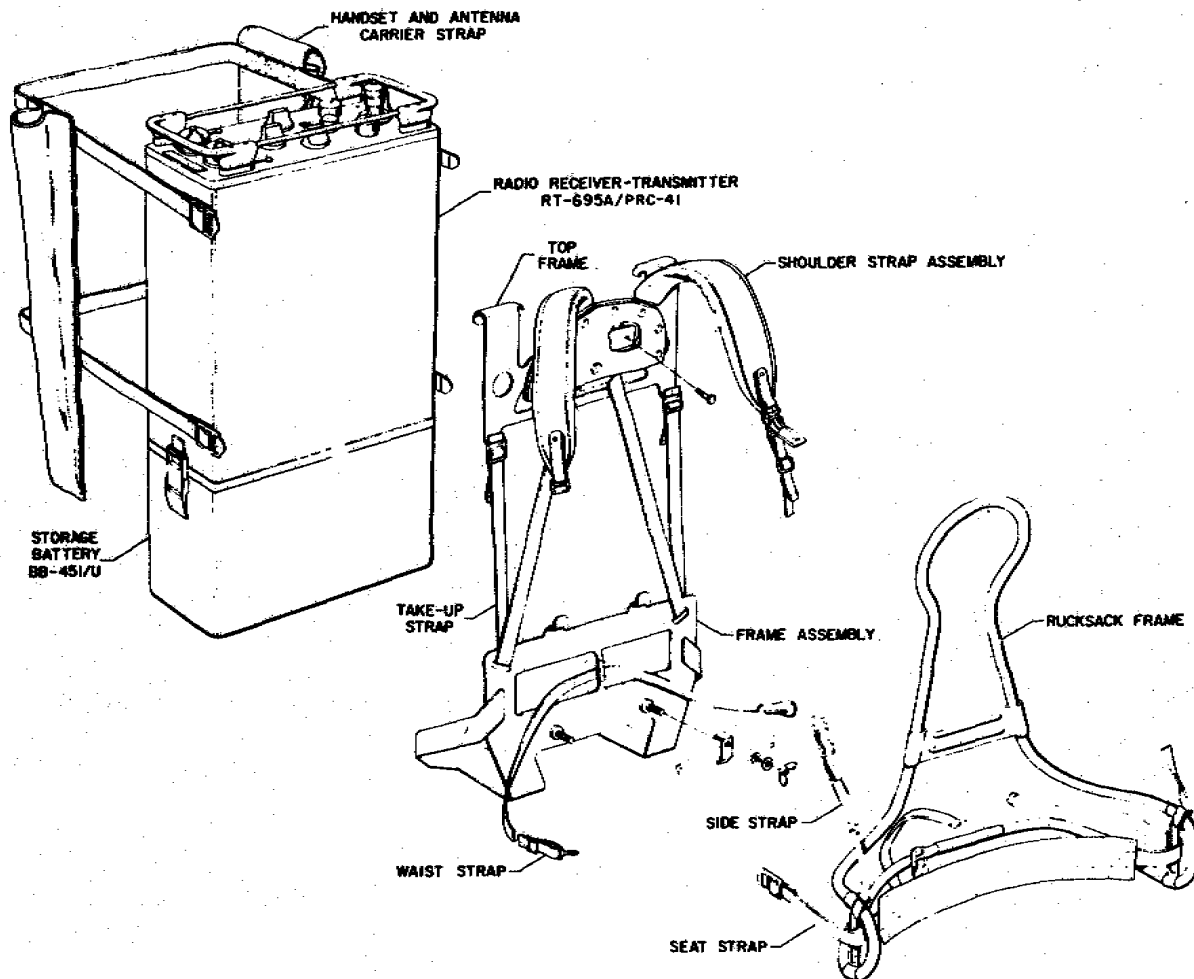

Figure 2-5. Assembly of Strappings of Rucksack Frame for Man-Pack Operation
(1) STOWING EQUIPMENT FOR MAN-PACK OPERATION. (Refer to figure 2-5.) - The strap-ping and harnessing required for man-pack operation are contained in Radio Set Case CY-3883/PRC-41. Assemble the straps and harness to the frame, and Radio Receiver-Transmitter RT-695A/PRC-41 and Storage Battery BB-451/U on the
waist strap through ends of rucksack frame on either side; fasten and tighten as required at operator's front. If desired, waist strap may be looped through lower frame assembly at operator's back as shown in figure 2-5 and tightened at operator's front. Adjust shoulder straps for proper fit with quick-release clamps closed.
provides approximately 8 to 10 hours of operation. To replace discharged Storage Battery BB-451/U by a fully charged one with the equipment stowed on the rucksack frame, refer to figure 2-5 and perform the following steps.